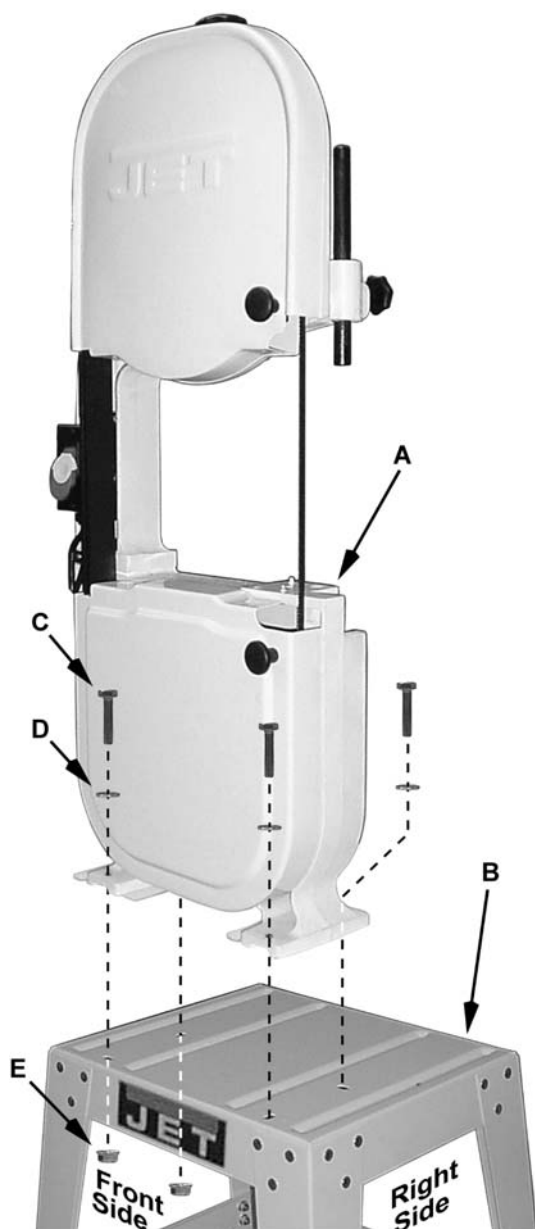

Figure 2
Referring to Figure 2:
5. Standing on the *right side* of the sand saw (Figure 2), pull the motor towards you.